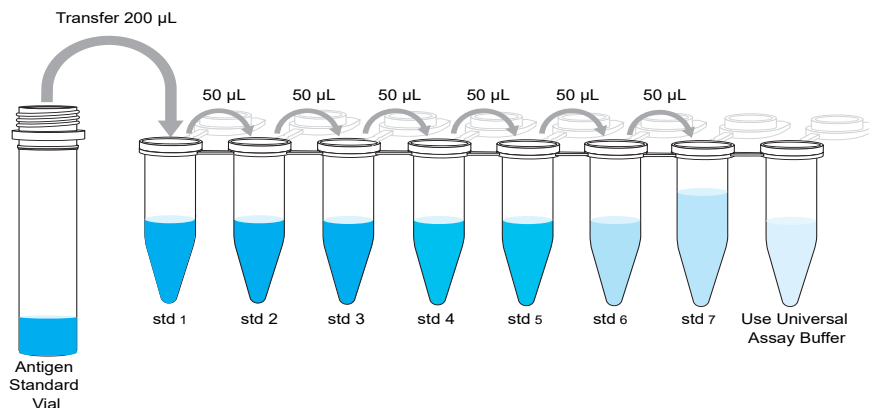

Figure 1 4-fold serial dilution
9. Add 150 µL of diluent to the last tube of the 8-Tube Strip to serve as a background. See Figure 1.